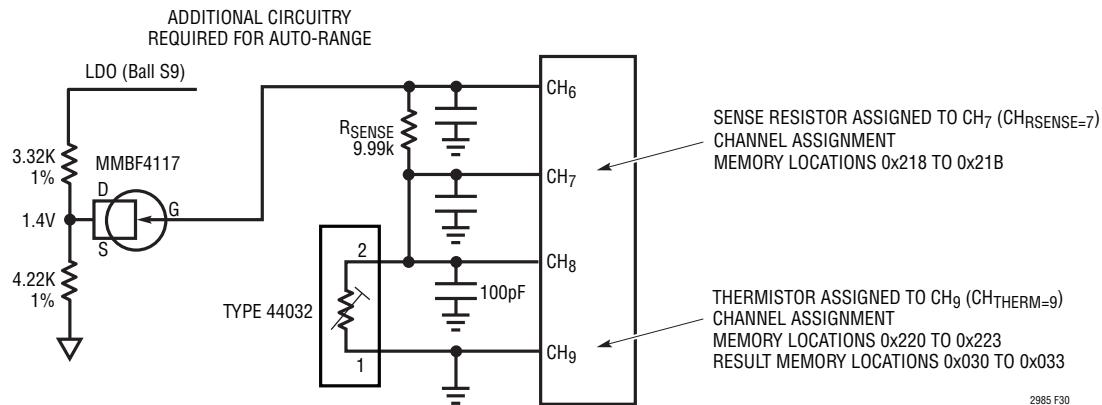

Figure 30. Differential Thermistor Example
\*Additional Circuitry required for auto-range, see Figure 30.
Figure 30 shows a typical temperature measurement system using a differential thermistor. In this example a  $30\text{k}\Omega$  (44032 type) thermistor is tied to a  $9.99\text{k}\Omega$  sense resistor. The thermistor is assigned channel CH9 (memory locations 0x220 to 0x223) and the sense resistor to CH7 (memory locations 0x218 to 0x21B). Channel assignment data is shown in Table 62 and Table 63).
(5) Custom Thermistor Data Pointer	Not Custom	12	000000000000											0	0	0	0	0
**Note 1:** Additional Circuitry required for thermistors using auto-range. See Figure 30.